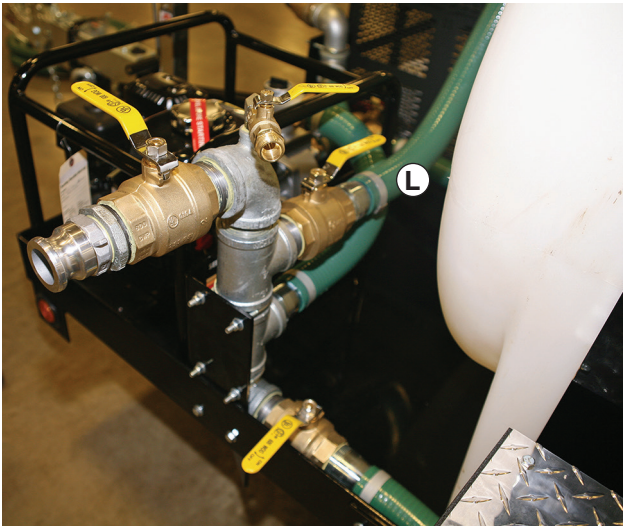

Figure 16
To fill the tank using an external body of water, attach the strainer (P) to the hard suction hose (O) (figure 14), attach hose (O) to valve (I), put the strainer (P) into the body of water, open valve (I) with valve (J) closed (figure 15) and open valve (L) with valves (K), (M) and (N) closed (figure 16).